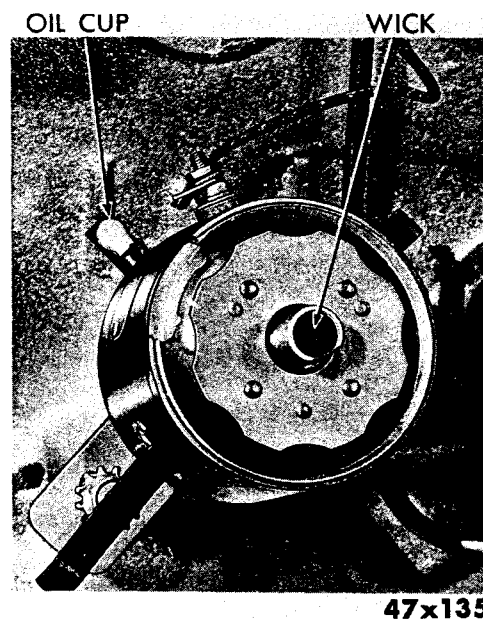

Figure 44 — Distributor Lubrication
The distributor (Figure 44) should be lubricated at three points: (1) oil cup on the side of the distributor, (2) wick under the rotor in the center of the cam and (3) distributor cam. Apply a few drops of SAE 10-W Engine Oil to the oil cup after each 25 hours of operation. After 250 hours of operation or when installing new breaker points, remove the distributor cap and rotor and apply two or three drops of SAE 10-W Engine Oil to the felt wick. Wipe old grease from the surface of the breaker cam and apply a light film of new distributor cam grease No. 1473595.